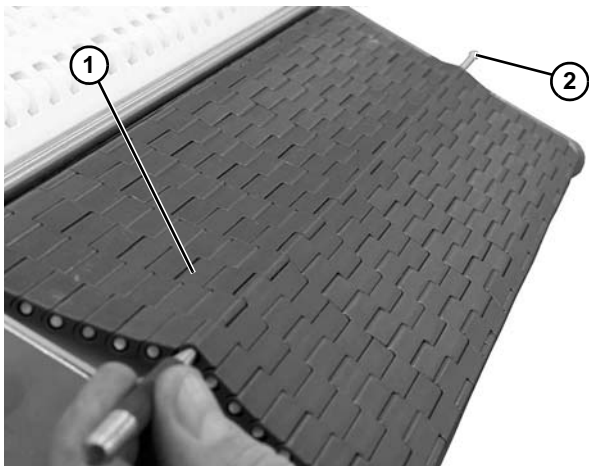

Figure 63
6. Lift slightly on belt (**Figure 63, item 1**) and push pin (**Figure 63, item 2**) out of belt.